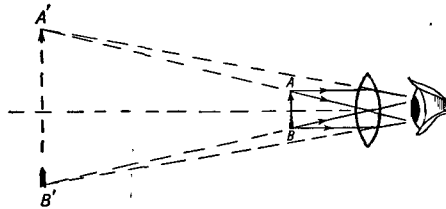

Fig. 35.17. A simple magnifying glass.
*b. Simple magnifying glass.* A simple magnifying glass, a reading glass, or a simple microscope is a convex lens. The object must be within the focal length, and the eye sees an erect, virtual, and enlarged image. (See Fig. 35.17.)